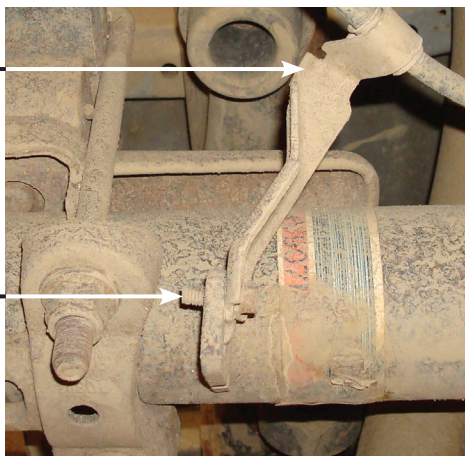

fig. 6
5. **All years:** On the passenger's (right) side, there is an emergency brake cable holder that is bolted on to a bracket welded to the axle with a self-tapping bolt. In order to make clearance for the axle strap, it will be necessary to cut this off or grind this bolt flush to the bracket (Fig. 6).